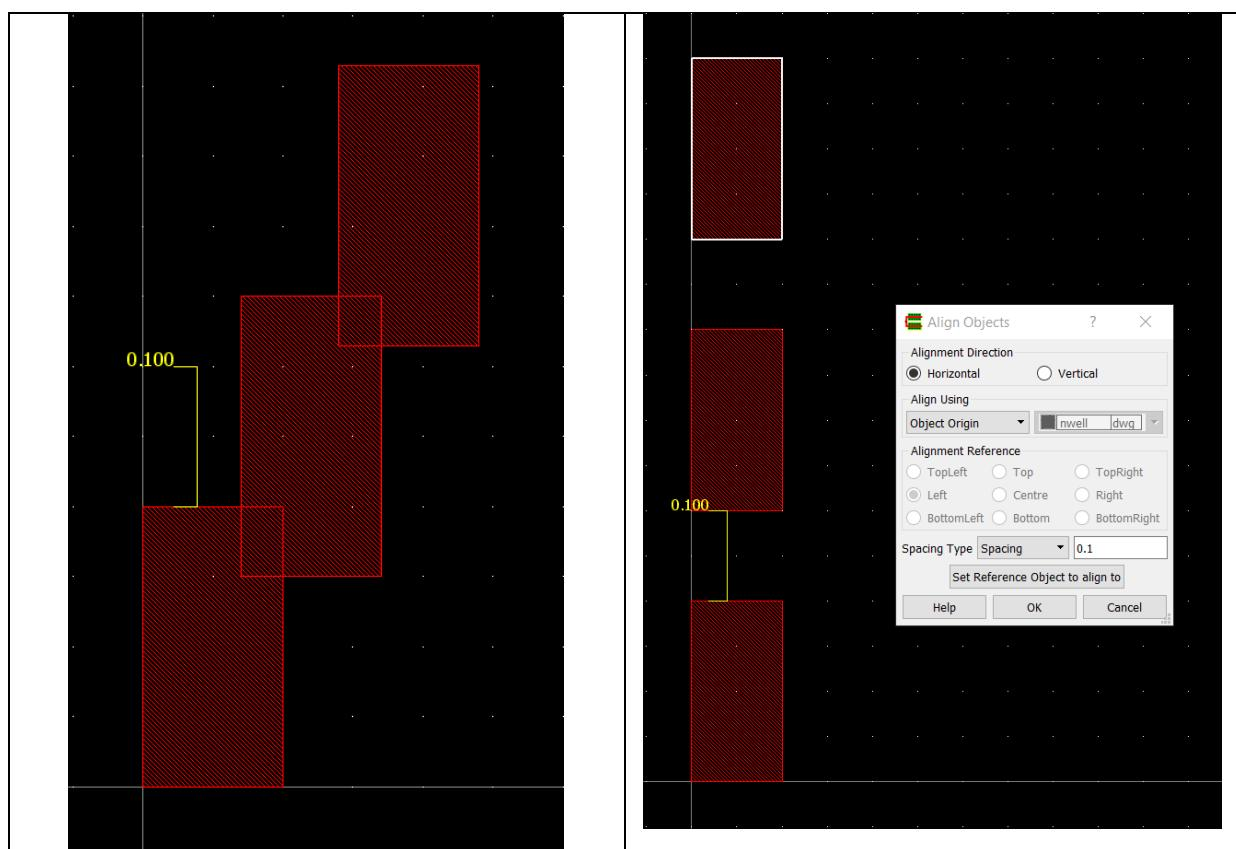

Figure 65 - Alignment with spacing
*Space* aligns objects so that the space between the reference object edge and the first object edge, the first object edge and the second object edge and so on is equal to the space value set. For Object bBox / Layer bBox alignment, spacing is only valid for left/right/top/bottom alignment reference. Figure 65 shows the effect of aligning objects using Horizontal alignment, with Spacing Type set to Spacing, and value 0.1um.